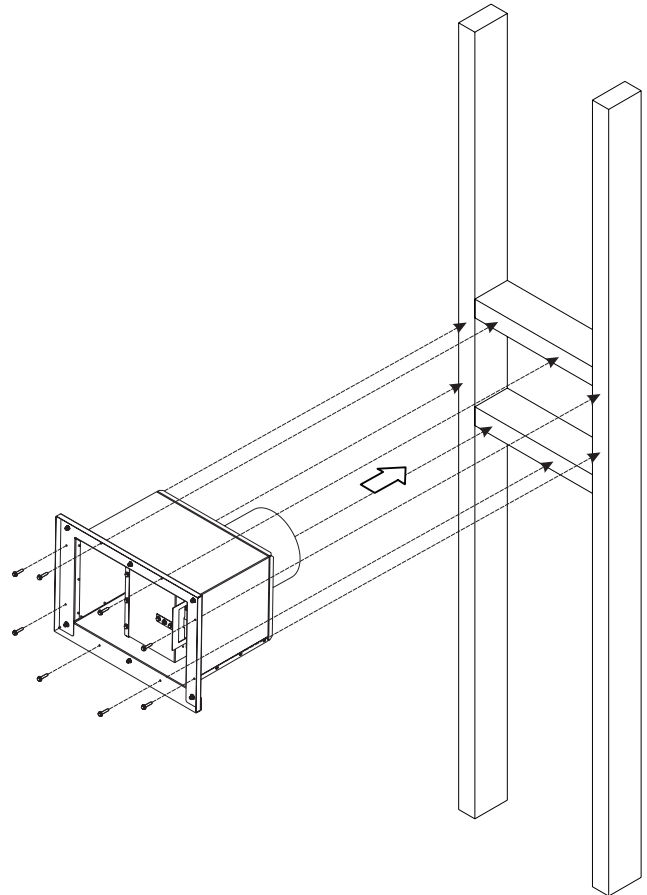

Figure 24
5. Place the Power-vent into the hole with the inducer outlet toward the bottom and secure with 8 #10X 1 inch screws as shown in **Figure 24**.